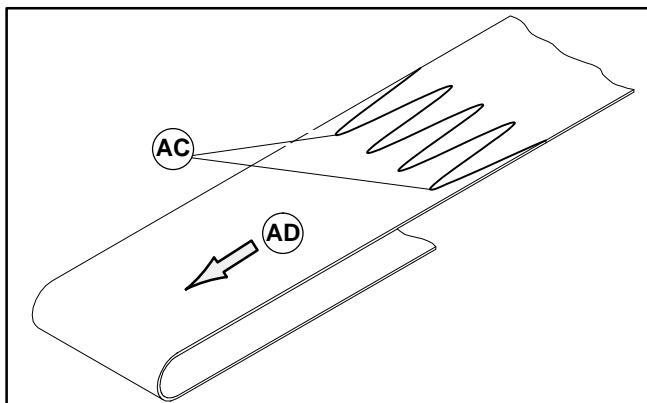

Figure 25
1. Orient the conveyor belt so that the splice leading fingers (AC of Figure 25) point in the direction of belt travel (AD).